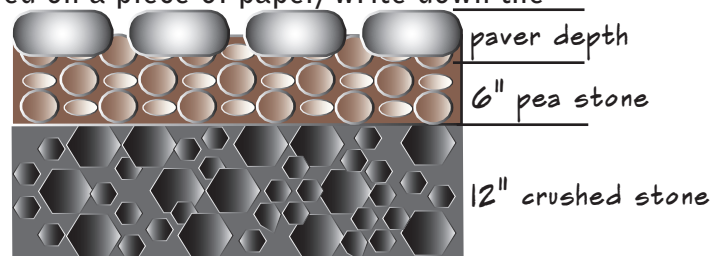

Figure 1. Pervious walkway profile.
- c. Sub-base material (figure 1) is the gravel and pea stone layers that go under the pavers. This material provides a reservoir for stormwater before it soaks into the ground underneath. You should have a minimum depth of 12" of 1½" diameter crushed stone and 6" of 3/8" peastone for your sub-base. Use the following equations to determine the amount of sub-base materials you will need: